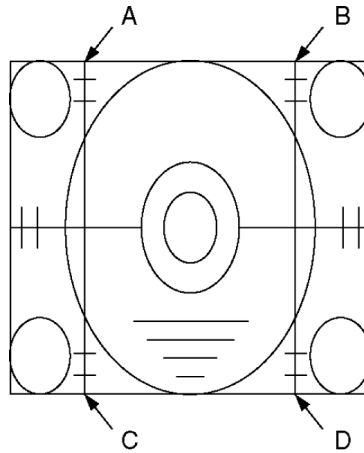

Fig. 17
3. Adjust V-AMP (75i / 4:3) so that B, D (Fig. 17) is 2.1 ± 0.1 .
3. Adjust V-AMP (100i / 4:3) so that B, D (Fig. 17) is 2.1 ± 0.1 .
3. Adjust V-AMP (50p / 4:3) so that B, D (Fig. 17) is 2.1 ± 0.1 .